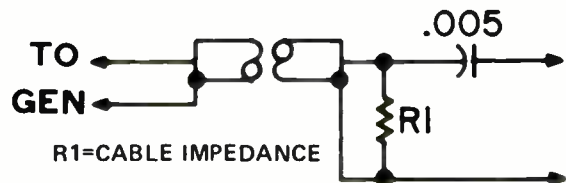

FIG. 1
1. Apply sweep signal with a 10.3 MHz to 11.1 MHz range, through Figure 1, or an equivalent circuit to TP1. **NOTE:** If your sweep generator has a 10.7 MHz marker, completely attenuate or ignore the marker. This procedure will align the chassis to the exact frequency of the pre-aligned LC Filters. The frequency is approximately, but not exactly 10.7 MHz, dependent upon the alignment of the prealigned LC Filters.